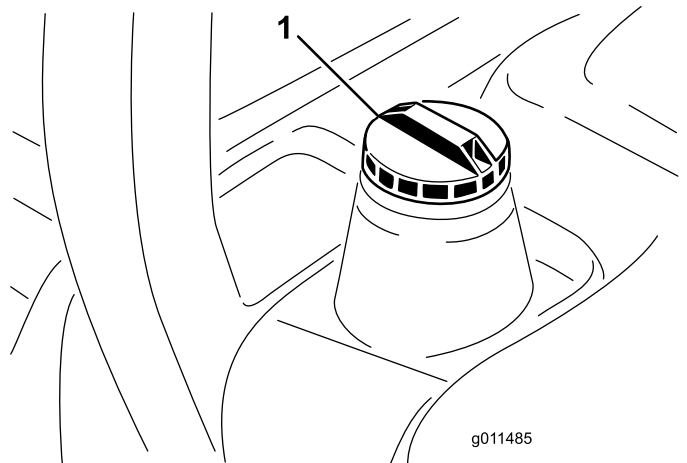

Figure 20
3. Remove the cap from the fuel tank (Figure 20).